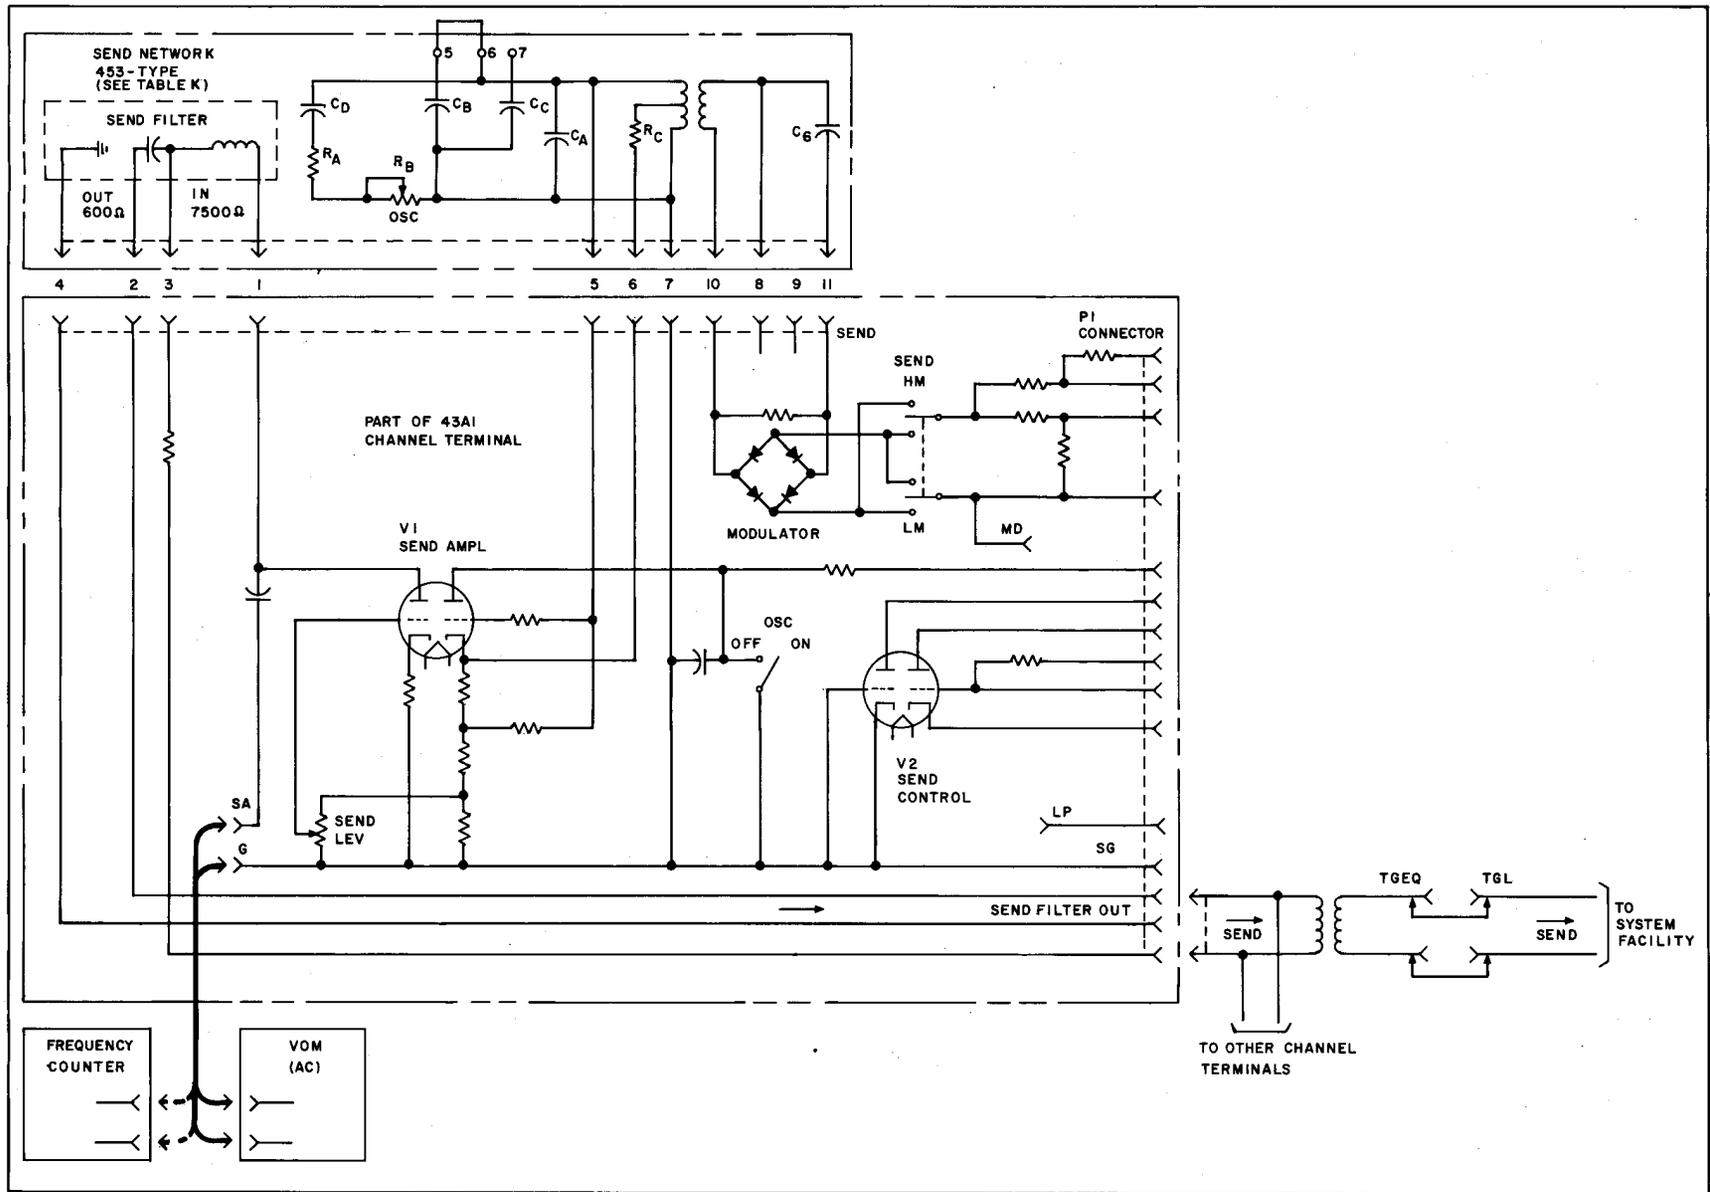

Fig. 15—Test P Connections—43A1 Channel Terminal and Send Network
- 5 Connect frequency counter to pin jacks SA and G (Fig. 15).